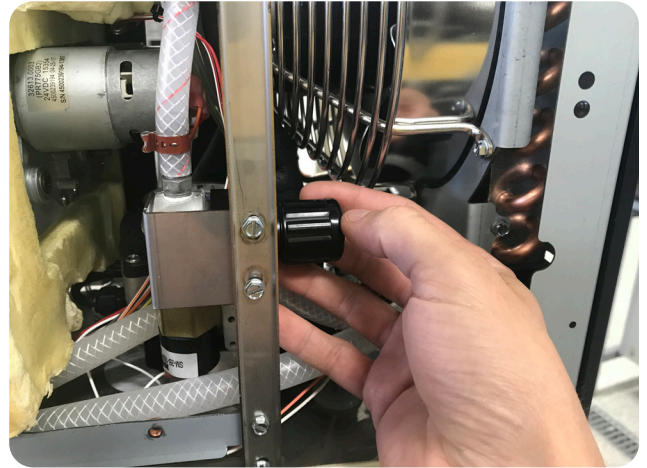

Fig.1
2. Remove right side panel and locate adjustment knob of gas regulator. Fig.1